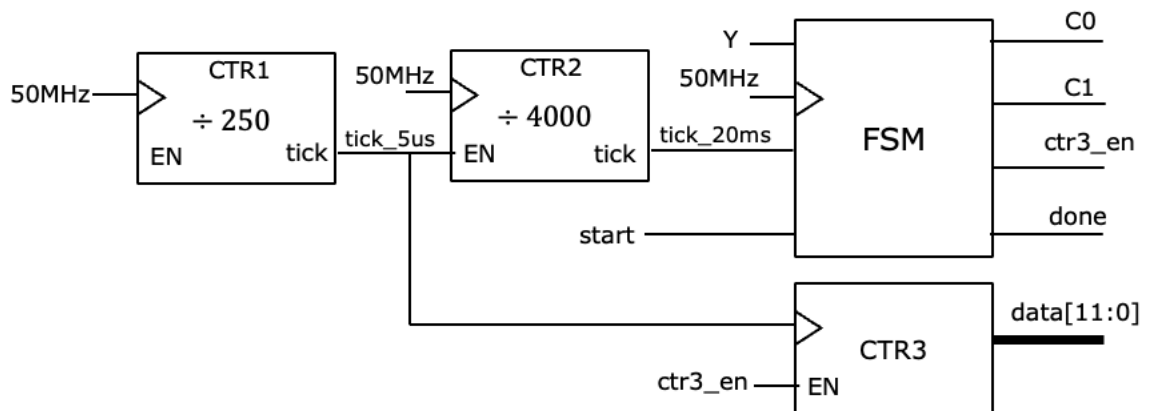

Figure 3.3
- e) *Figure 3.3* shows the design of the controller M1. It consists of three counters: CTR1, CTR2 and CTR3, and finite state machine FSM. Assuming that CLK is a symmetrical clock signal at 50MHz, design the digital controller M1 that performs ADC conversion as one or more SystemVerilog modules.